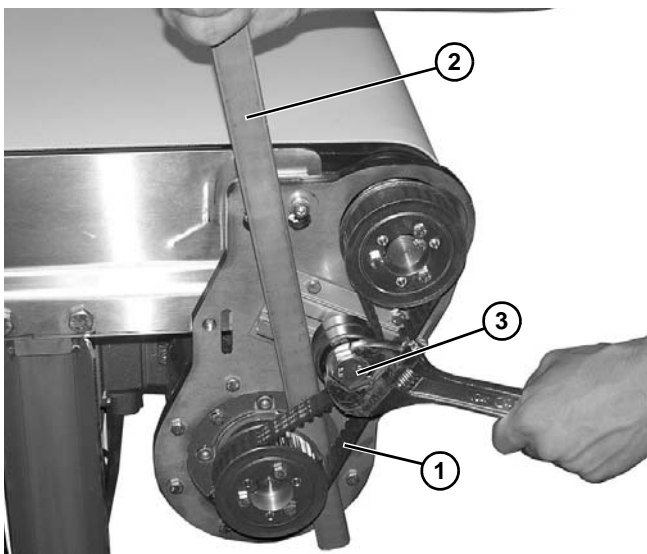

Figure 15
5. Tension timing belt (Figure 15, item 1) sufficiently to prevent belt skipping. A pry bar (Figure 15, item 2), may be used, as shown, to assist in belt tensioning.
6. Tighten tensioner screw (Figure 15, item 3) to secure position.